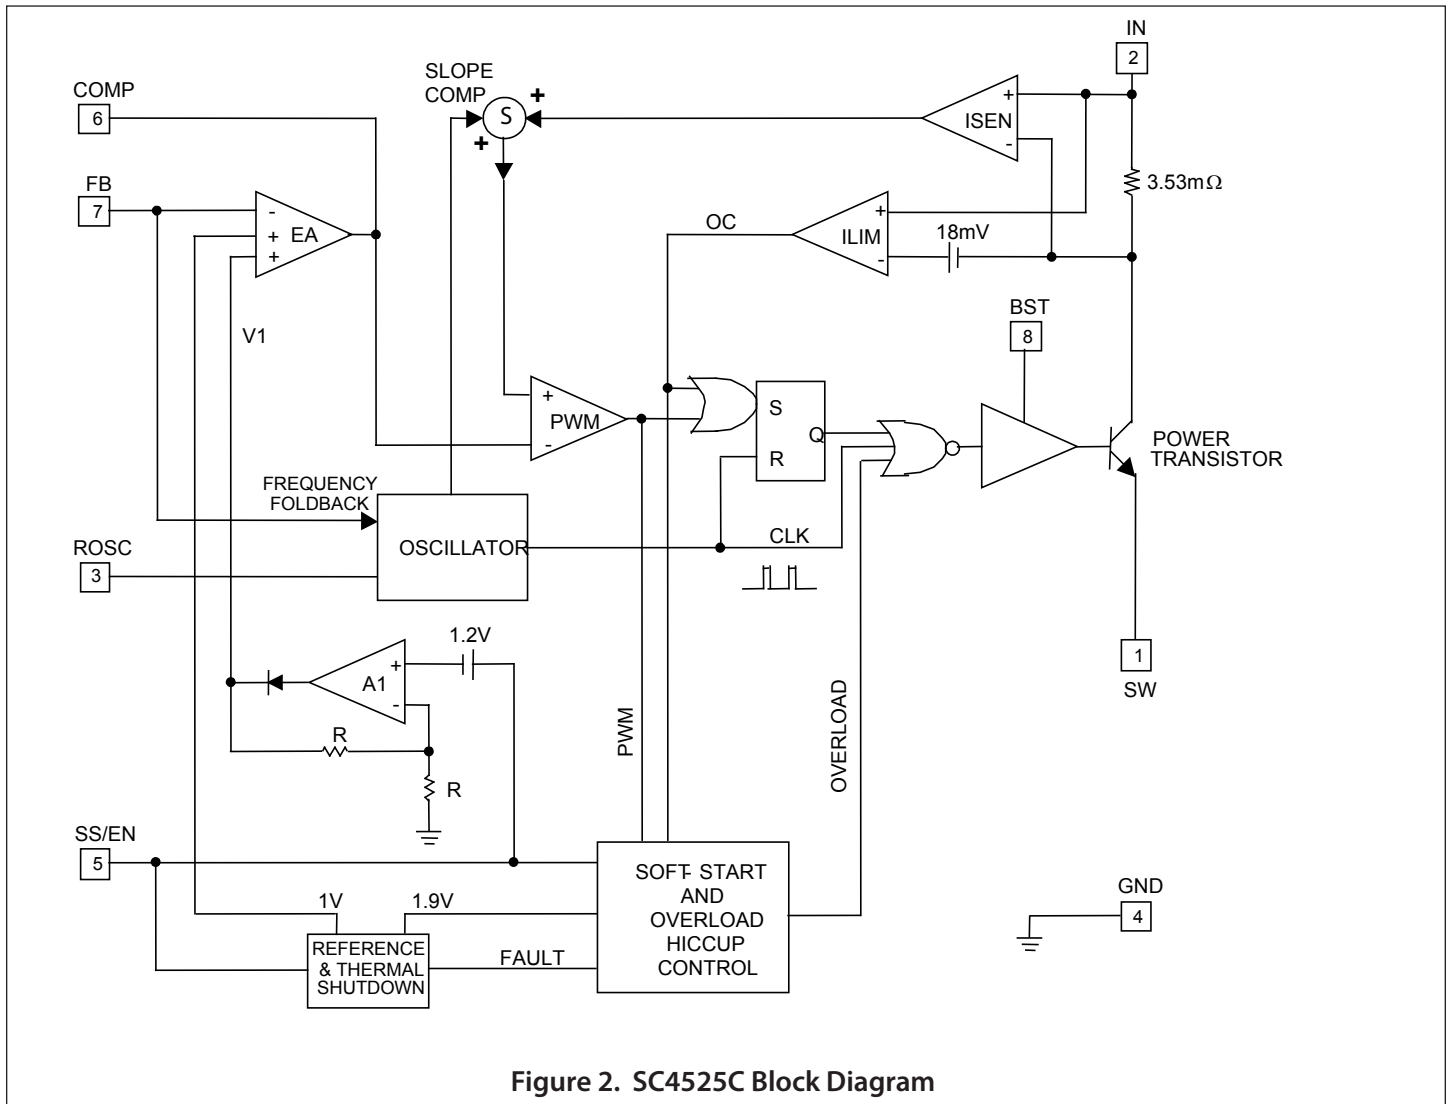

Figure 2. SC4525C Block Diagram
As shown in Figure 2, the switch collector current is sensed with an integrated 3.53mΩ sense resistor. The sensed current is summed with a slope-compensating ramp before it is compared with the transconductance error amplifier (EA) output. The PWM comparator trip point determines the switch turn-on pulse width. The current-limit comparator ILIM turns off the power switch when the sensed signal exceeds the 18mV current-limit threshold.
The error amplifier EA in Figure 2 has two non-inverting inputs. The non-inverting input with the lower voltage predominates. One of the non-inverting inputs is biased to a precision 1V reference and the other non-inverting input is tied to the output of the amplifier A_1 . Amplifier A_1 produces an output $V_1 = 2(V_{SS/EN} - 1.2V)$. V_1 is zero and COMP is forced low when $V_{SS/EN}$ is below 1.2V. During start up, the effective non-inverting input of EA stays at zero until the soft-start capacitor is charged above 1.2V. Once $V_{SS/EN}$ exceeds 1.2V, COMP is released. The regulator starts to switch when V_{COMP} rises above 0.4V. If the soft-start interval is made sufficiently long, then the FB voltage (hence the output voltage) will track V_1 during start up. $V_{SS/EN}$ must be at least 1.83V for the output to achieve regulation. Proper soft-start prevents output overshoot. Current drawn from the input supply is also well controlled.
becomes armed. As the load draws more current from the regulator, the current-limit comparator ILIM (Figure 2) will eventually limit the switch current on a cycle-by-cycle basis. The over-current signal OC goes high, setting the latch B₃. The soft-start capacitor is discharged with (I_D - I_C) (Figure 3). If the inductor current falls below the current limit and the PWM comparator instead turns off the switch, then latch B₃ will be reset and I_C will recharge the soft-start capacitor. If over-current condition persists or OC becomes asserted more often than PWM over a period of time, then the soft-start capacitor will be discharged below 1.9V. At this juncture, comparator B₄ sets the overload latch B₂. The soft-start capacitor will be continuously discharged with (I_D - I_C). The COMP pin is immediately pulled to ground. The switching regulator is shut off until the soft-start capacitor is discharged below 1.0V. At this moment, the overload latch is reset. The soft-start capacitor is recharged and the converter again undergoes soft-start. The regulator will go through soft-start, overload shutdown and restart until it is no longer overloaded.
The PWM latch in Figure 2 is reset every cycle by the clock. The clock also turns off the power transistor to refresh the bootstrap capacitor. This minimum off time limits the attainable duty cycle of the regulator at a given switching frequency. The measured minimum off time is 100ns typically. If the required duty cycle is higher than the attainable maximum, then the output voltage will not be able to reach its set value in continuous-conduction mode.